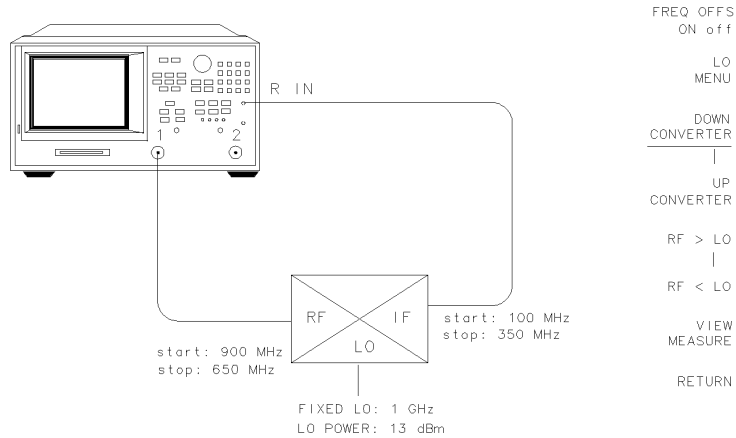
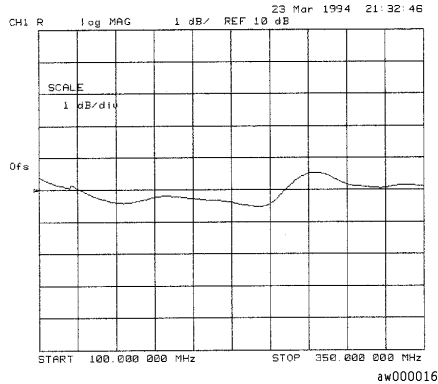

Figure 8-6. Measurement Setup from Display
Figure 8-7. Conversion Loss Example Measurement
In this high-side LO, down conversion configuration, the analyzer's source is actually sweeping backwards, as shown in Figure 8-7. The measurements setup diagram is shown in Figure 8-6.
- 12 To measure the conversion loss as shown in Figure 8-7, press:
In this measurement, you set the input power and measured the output power. Figure 8-7 shows the absolute loss through the mixer versus mixer output frequency.